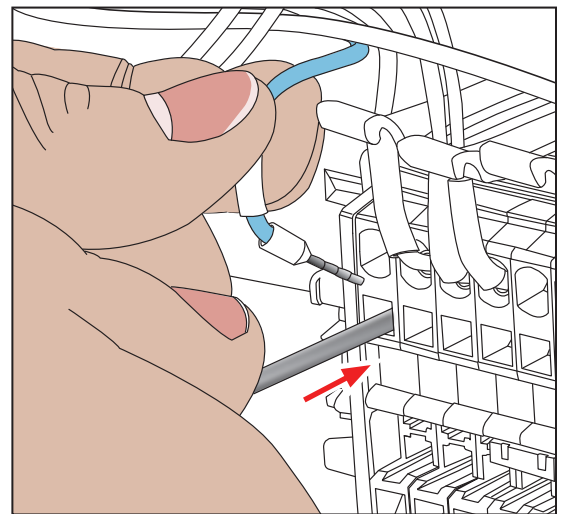

Figure 19
- a. Slowly insert the end of a small, flat-head screwdriver into the slot above or below the selected wire connection site (see **Figure 19**).